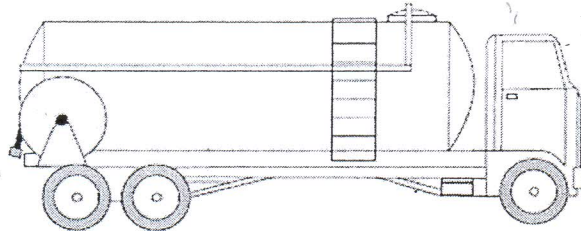

Figure 7
- (b) The hose reel of a heating-oil tanker truck is driven by a hydraulic motor shown in Figure 7. This must allow the hose to be unwound, the reel to be stopped for a lengthy period, and the hose to be wound up again. A 4/3-way valve is to be used to obtain this function. The speed must be adjustable by means of a throttle valve.